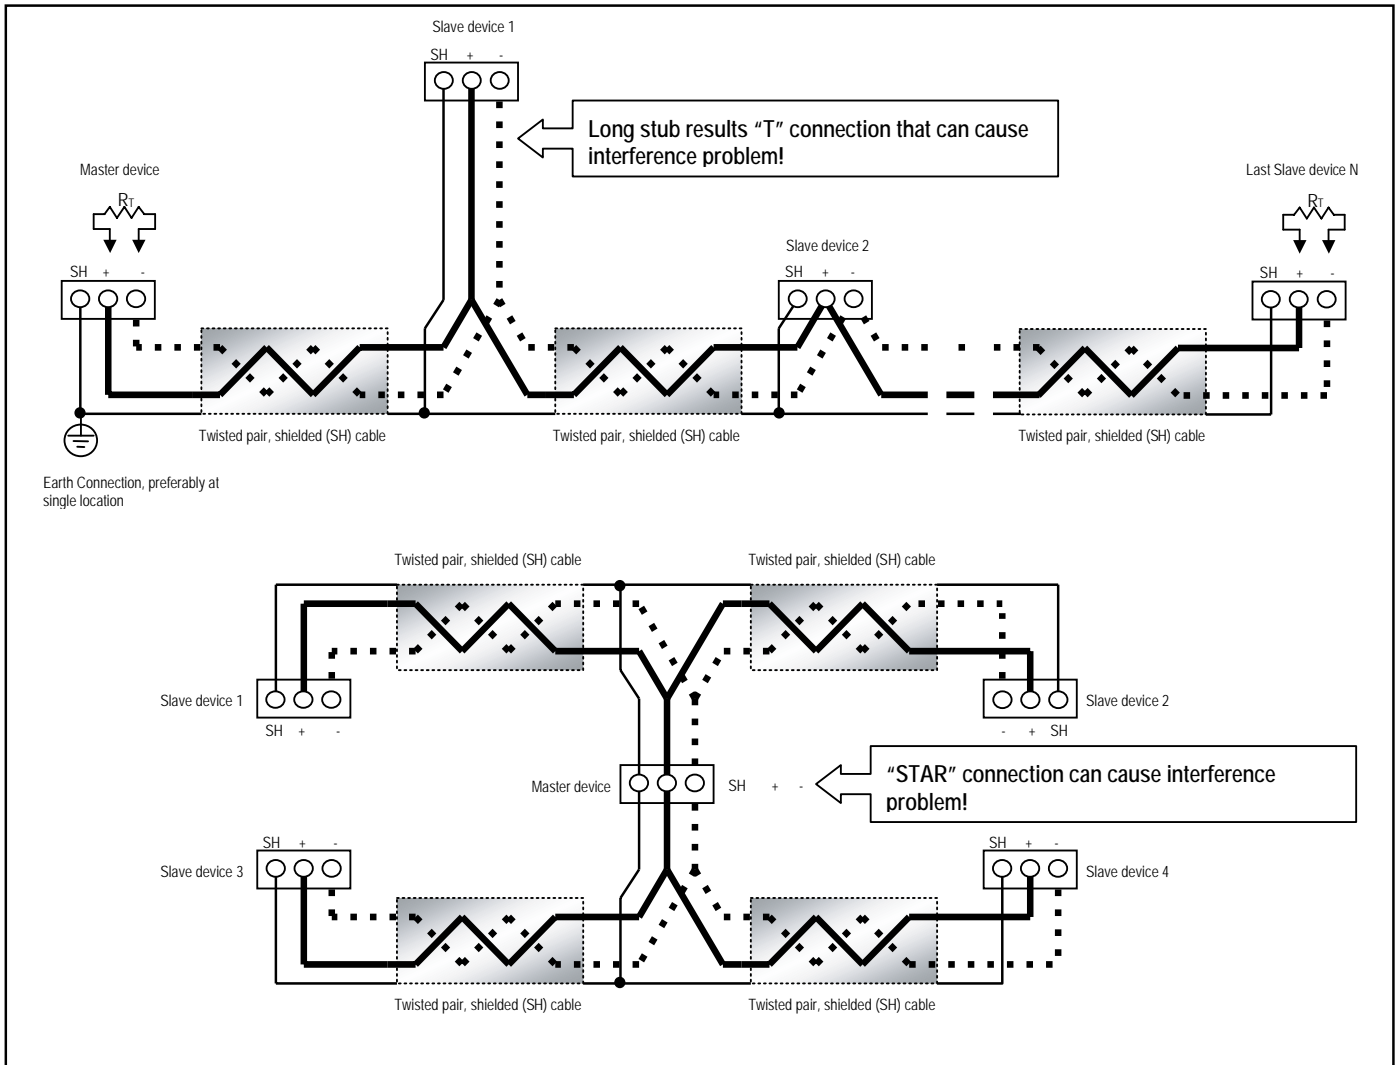

Figure 5.4: Incorrect "T" and "Star" Topologies
- Avoid both “Star” and “Tee” connections (see Figure 5.4).